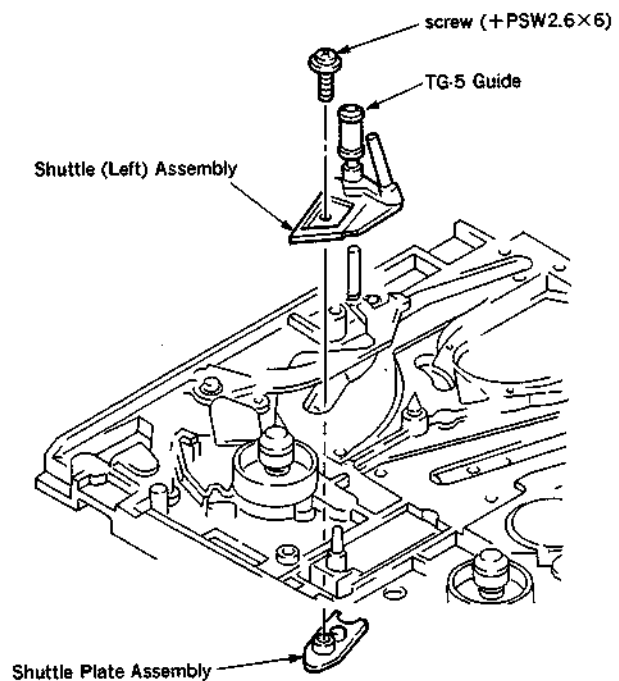

Fig. 2
- (3) Remove the screw, then remove the shuttle (left) ass'y and the shuttle plate ass'y. (Fig. 2)